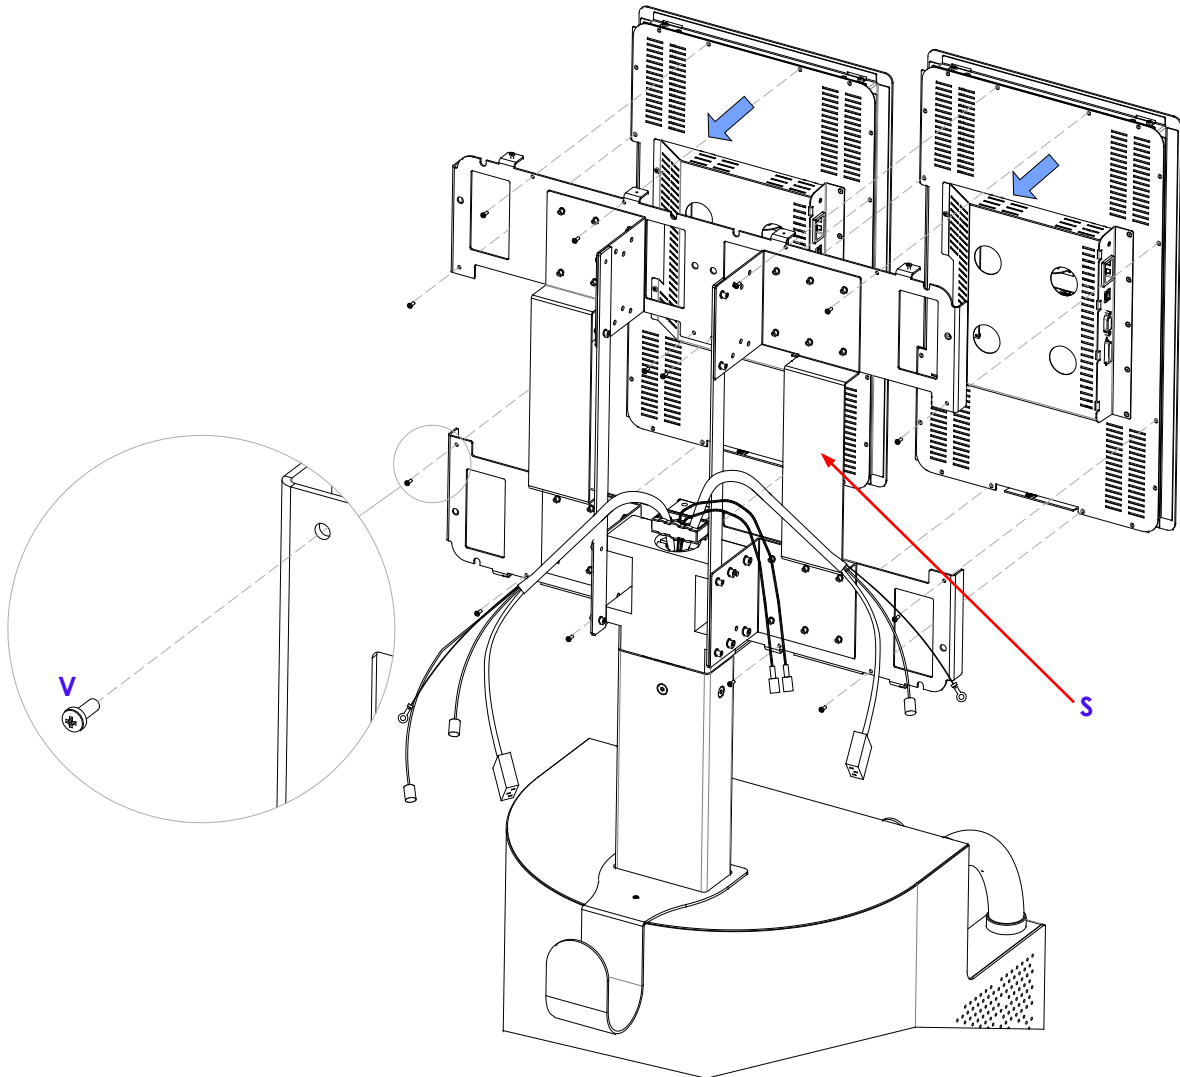

Fig. 2a
The monitors are installed vertically (portrait orientation), with the cable sockets on the right of the monitor (as seen from behind) (fig. 2a).
- Secure the monitors to support (**S**) using the screws (**V**) provided, as shown in fig. 2a.